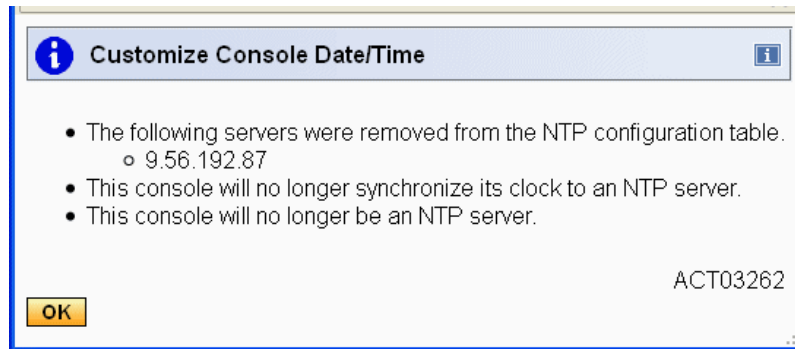

Figure 1-29 Message ACT03262 - Last NTP server removed
5. When **Yes** is selected, the last NTP server is removed and an information window displays (Figure 1-29).